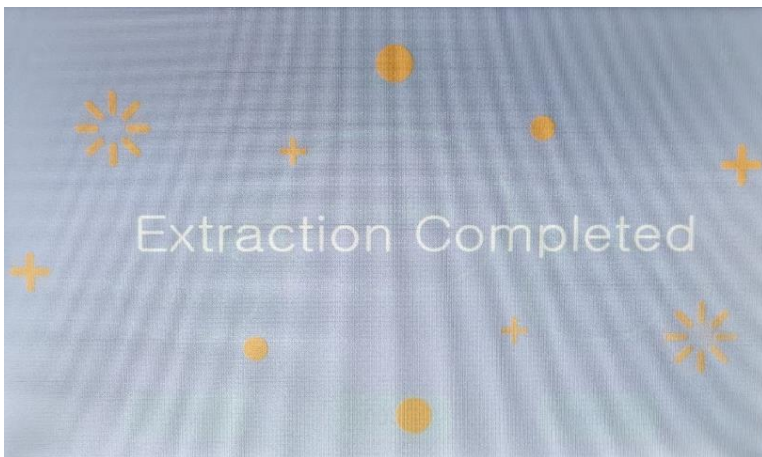

Figure 17. Run completion screen of the IndiMag 48s touchscreen interface
6. After a run has completed successfully, the Completion screen will appear (See Figure 17).